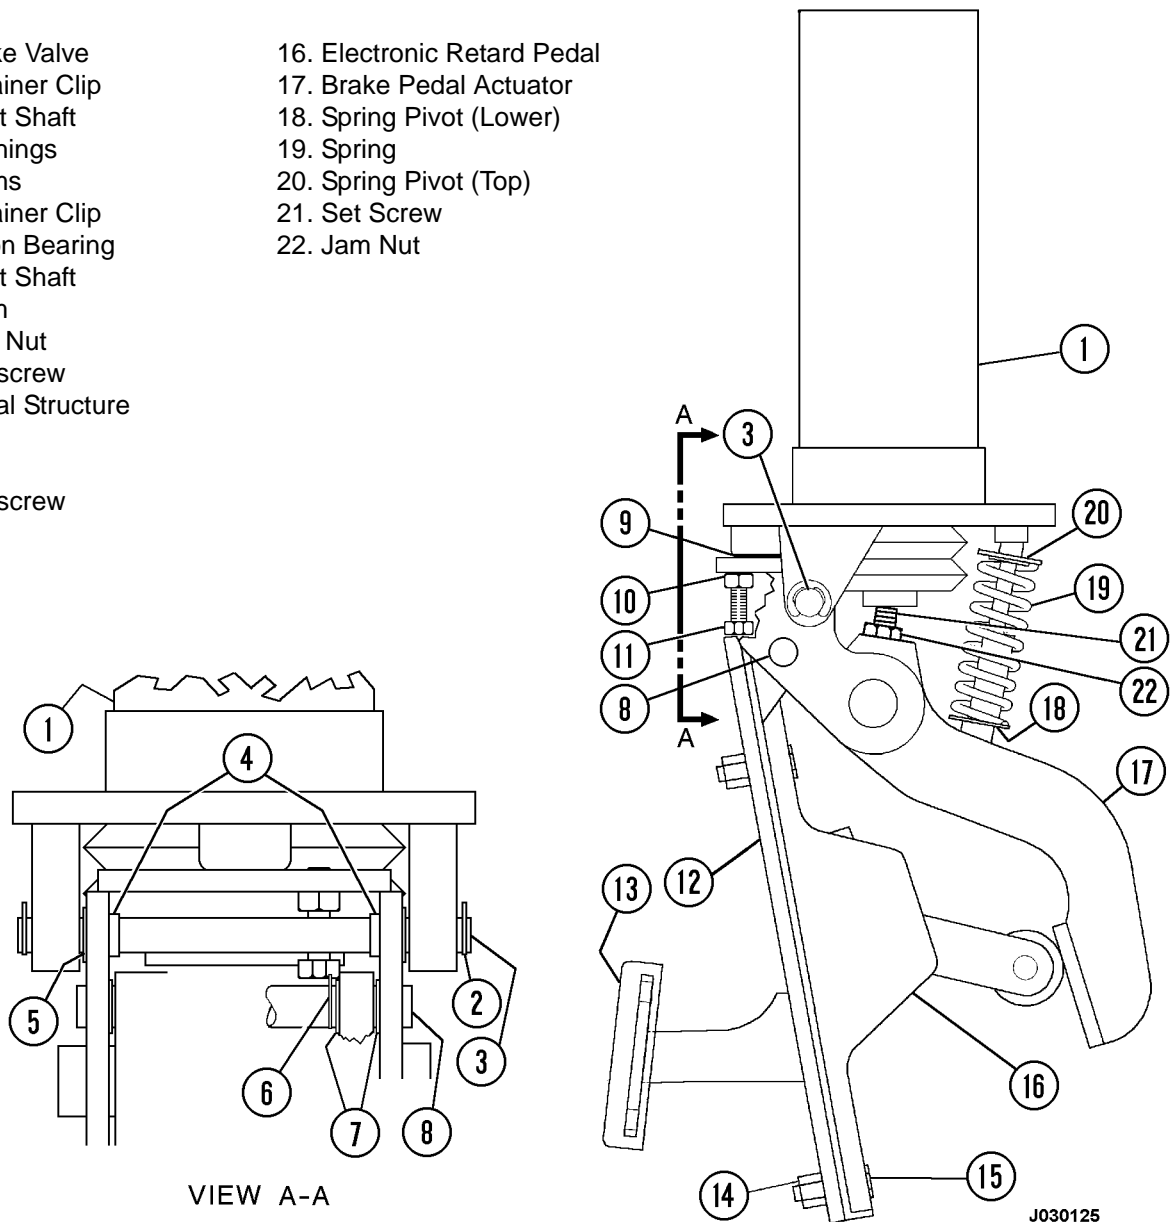

FIGURE 3-3. BRAKE VALVE WITH RETARD PEDAL
1. If not already removed, remove electronic retard pedal (16, Figure 3-3) from the brake pedal by removing pivot shaft (8).